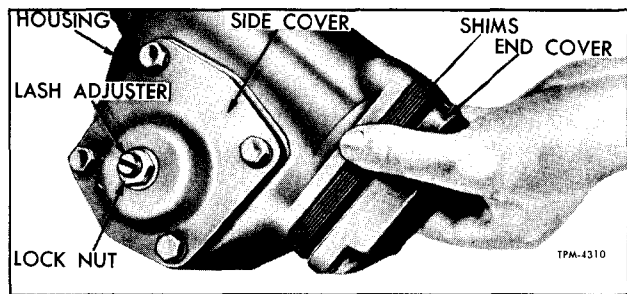

Figure 5—Installing End Cover Shims (568-D) (Typical)
2. Check steering wheel rim pull as previously described. Reading on scale should be within $1\frac{1}{2}$ to 2 pounds. Readjust worm bearing by adding or removing shims until correct adjustment is obtained (fig. 5 or 6).
2. Loosen lash adjuster lock nut and turn adjuster screw (fig. 5 or 6) clockwise to remove all backlash between gear teeth. Tighten lock nut to 25 to 35 foot-pounds torque, then check steering wheel rim pull as outlined previously. Measure greatest pull as wheel is pulled through center position. Rim pull should be $2\frac{3}{4}$ to $3\frac{1}{4}$ pounds.